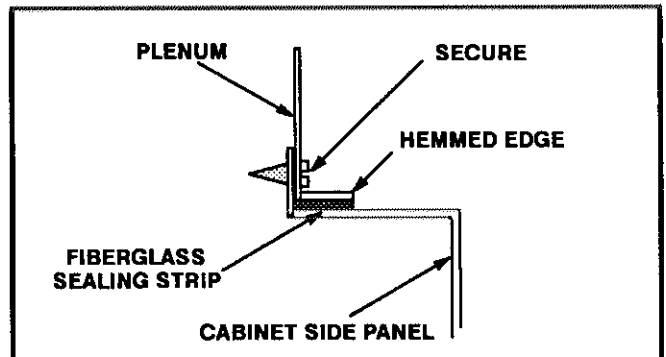

FIGURE 5
- 1- Bottom edge of plenum should be flanged with a hemmed edge. See figure 5.